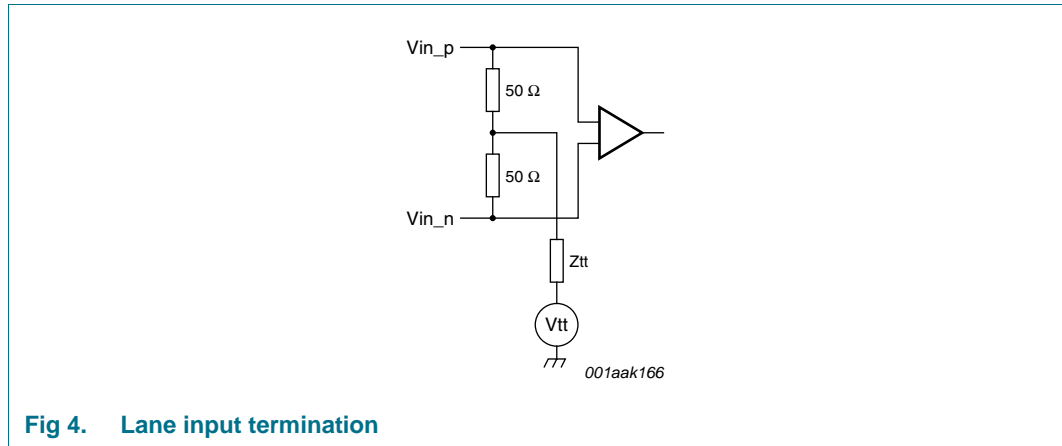

Fig 4. Lane input termination
- [4] Vin\_p and Vin\_n inputs are differential CML inputs. They are terminated internally to  $V_{tt}$  via 50 Ω (see Figure 4).